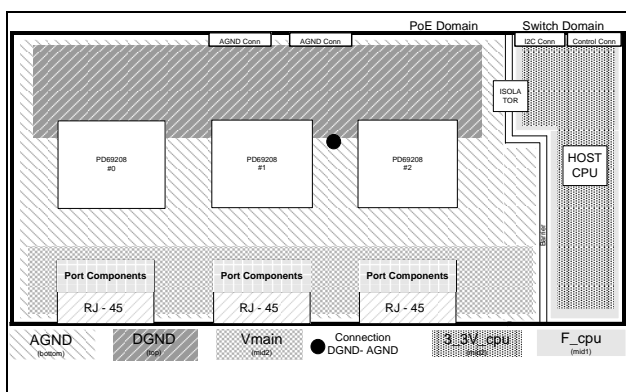

Figure 22: Ground and Power Planes
Ground planes are crucial for proper operation and should be designed in accordance with the following guidelines, as illustrated in Figure 22:
- ♦ To prevent ground loop currents, use only a single connection point between the digital and analog grounds as shown in Figure 22.